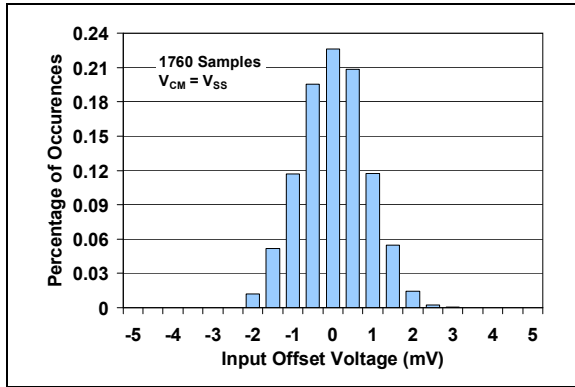

**FIGURE 1-1:** AC and DC Test Circuit for Most Specifications.
Electrical Characteristics: Unless otherwise indicated, $V_{DD} = +1.8V$ to $+6.0V$ , $V_{SS} = GND$ , $T_A = +25^{\circ}C$ , $V_{CM} = V_{DD}/2$ , $V_{OUT} \gg V_{DD}/2$ , $V_L = V_{DD}/2$ and $R_L = 100$ k $\Omega$ to $V_L$ . (Refer to Figure 1-1).
**Electrical Characteristics:** Unless otherwise indicated,  $T_A = +25^\circ\text{C}$ ,  $V_{DD} = +1.8$  to  $+6.0\text{V}$ ,  $V_{SS} = \text{GND}$ ,  $V_{CM} = V_{DD}/2$ ,  $V_{OUT} \approx V_{DD}/2$ ,  $V_L = V_{DD}/2$ ,  $R_L = 100\text{ k}\Omega$  to  $V_L$  and  $C_L = 60\text{ pF}$ . (Refer to Figure 1-1).
The circuit used for most DC and AC tests is shown in Figure 1-1. This circuit can independently set  $V_{CM}$  and  $V_{OUT}$ ; see Equation 1-1. Note that  $V_{CM}$  is not the circuit's common mode voltage ( $(V_P + V_M)/2$ ), and that  $V_{OST}$  includes  $V_{OS}$  plus the effects (on the input offset error,  $V_{OST}$ ) of temperature, CMRR, PSRR and  $A_{OL}$ .